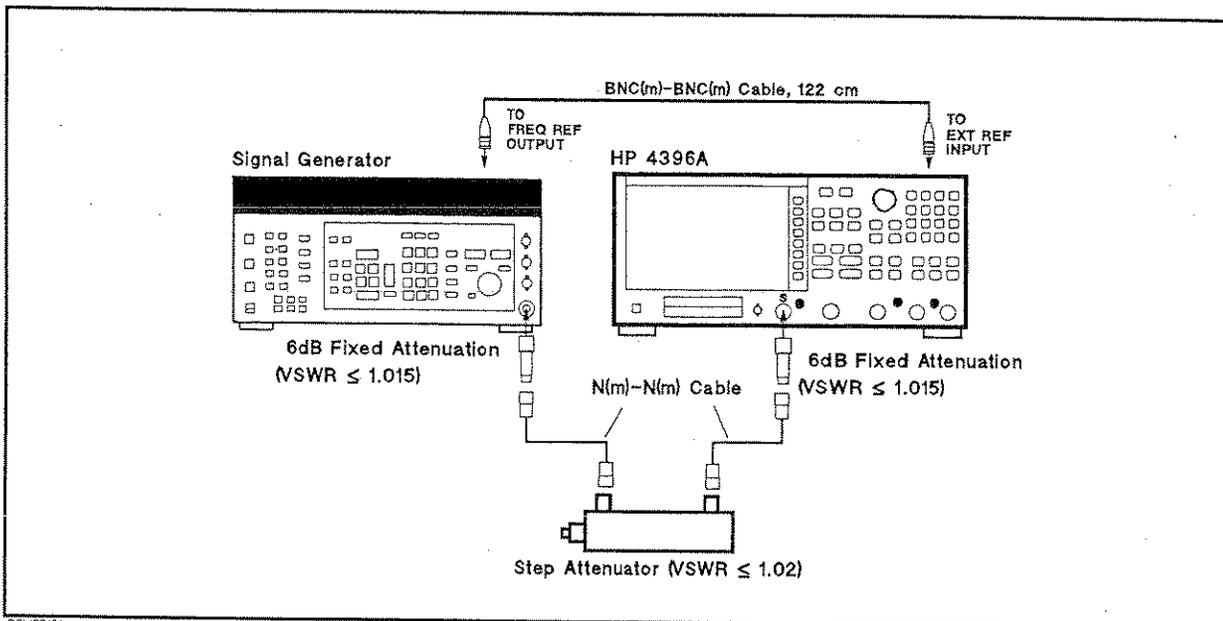

Figure 2-20. Amplitude Fidelity Test Setup
- Connect the test equipment as shown in Figure 2-20.
Connect the signal generator's 10 MHz frequency reference output to the HP 4396A EXT REF Input on the rear panel as shown in Figure 2-20. With this configuration, both the signal generator and the HP 4396A are phase locked to the same reference frequency to obtain a stable measurement.